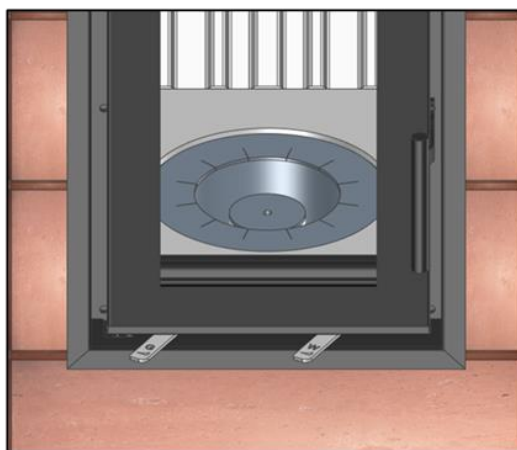

Fig.2 Setting of regulators after closing the air supply
**NOTE:** After completing the burning cycle, cut off the air supply by setting both rods in the closed position, i.e. both to the left (see Figure 2). If the device is optionally equipped with an automatic air supply controller, this operation will be performed by the controller. Do not close the air supply before the ember on the grate of the generator chamber has completely extinguished.